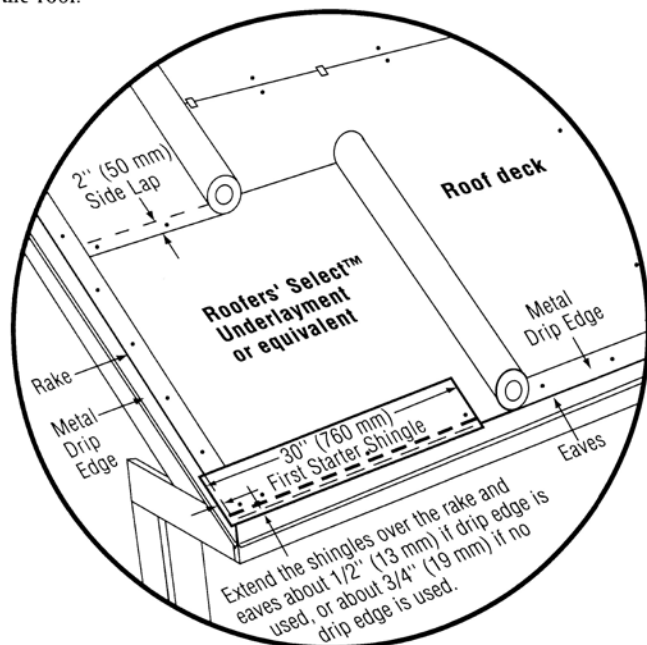

Figure 12-6: Standard slope underlayment and starter drip edge details.
3. Cut off and discard the tabs on all the shingles used to complete the starter course. Apply the starter course along the eaves (Figure 12-6).
2. Cut 5" off the length of the first starter strip and apply the resulting 31" piece at the lower left corner of the roof. This starter strip should overhang the rakes and eaves 1/2" when drip edge is used, or 3/4" when no drip edge is used (Figure 12-6).